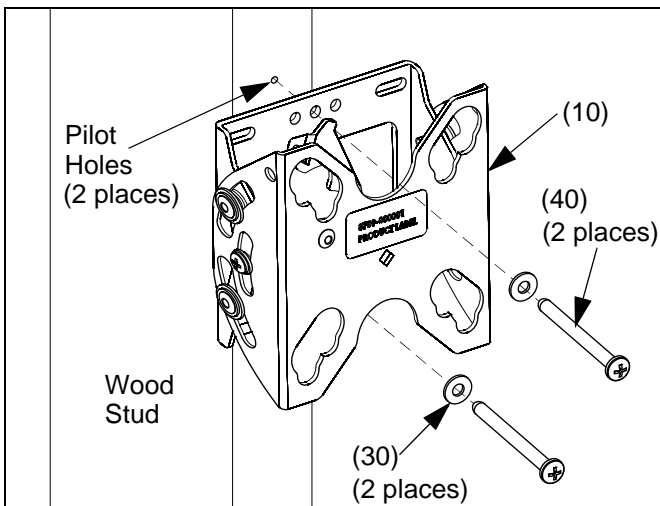

Figure 2: Installation to Single Wood Stud
5. Using Phillips screwdriver, insert screw (40) through washer (30), plate (10), and drywall (not shown) and install into pilot holes (See Figure 2).